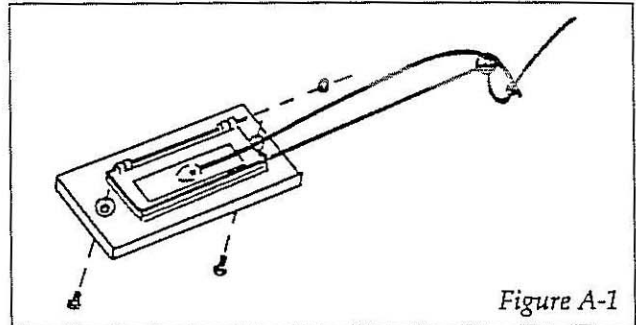

Figure A-1
3. Assemble the primary air valve assembly. Put the air frame face down with the drilled bosses up. Thread the primary air rod through the hole in the bottom of the air valve and just start it into the left top (hinge) hole of the frame. Put the valve and rod in the frame so that the air rod hinge holes align. Push the air rod from left to right through the aligned holes and secure the rod in the frame with the 1/8" friction clip. See fig. A-1. Turn the assembly over and install the socket head cap (adjusting) screw, 1/4-20 x 3/18", in the center of the air valve, finger tight.
Pull the running end of the cable over to the valve and thread it through the small hole in the center of the valve. Pull 6" of cable outside the valve. Tighten the set screw finger tight. See figures A-1 and A-2.